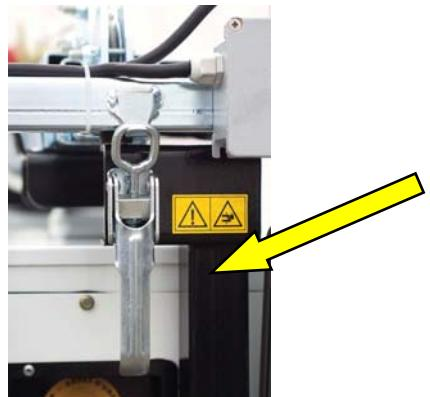

Figure 5.5 – Safety lever
- ④ Unlock the column safety lever (figure 5.5) and then perform the first raising phase, from horizontal to vertical position, by turning the hoist crank handle with automatic brake (figure 5.6).
- ❺ Lock the column safety lever (Figure. 5.5).
- ❻ Lift up the front and rear stabilisers using the crank handle and bring the stabilisers to their rest position.
- ❼ Shut down the generating set.